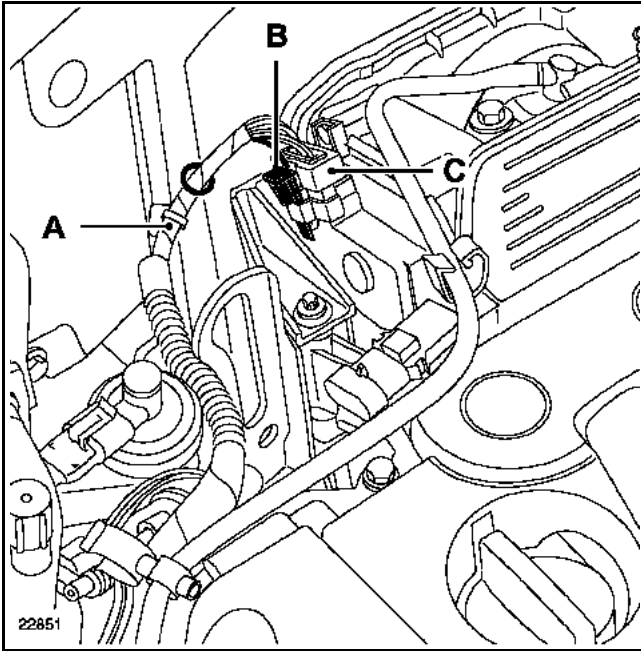

Fig. 1
- Remove the retaining clip from the electric wiring harness of the motorized throttle body (A) (**Fig. 1**).
- Remove the yellow position lock (B) (**Fig. 1**) if it is present.
- Disconnect the motorized throttle body connector (C) (**Fig. 1**).
- Attach the yellow position lock (B) (**Fig. 1**) to the connector.